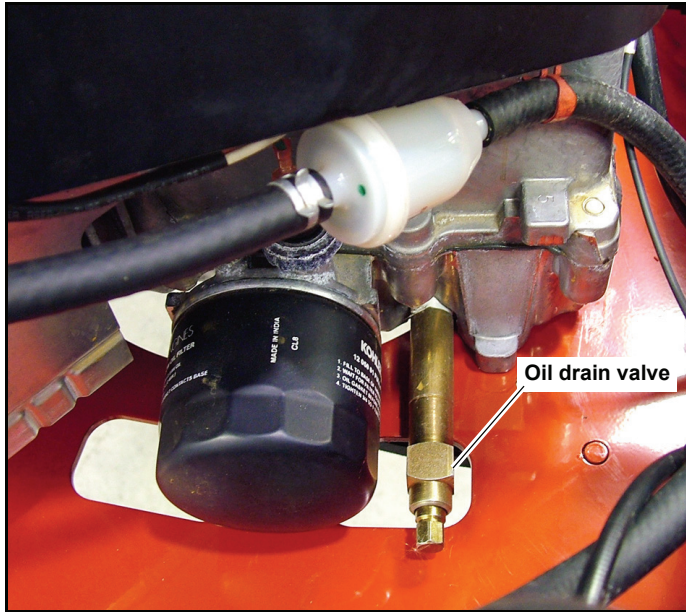

Fig. 4-6
B. Draining the engine oil (units equipped with oil drain valve as shown in Fig. 4-6):
1. Locate the oil drain valve on the engine. Fig. 4-6,